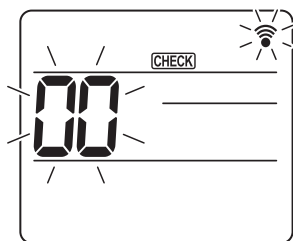
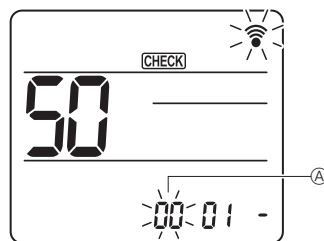
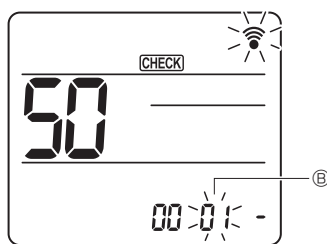
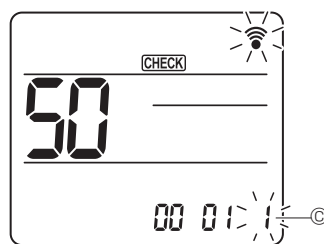

Fig. 7-16
Fig. 7-17
Fig. 7-18
Fig. 7-19
#### 7.4.2. By wireless remote controller (Fig. 7-16, Fig. 7-17, Fig. 7-18, Fig. 7-19)
(Start this operation from the status of remote controller display turned off.) [CHECK] is lighted and "00" blinks. (Fig. 7-16)
- ② Setting the unit number
- Press the [DOWN] button to set unit number ①. (Fig. 7-17)
- ③ Select a mode
- Press the [DOWN] button to set Mode number ②. (Fig. 7-18)
- ④ Selecting the setting number
- Use the [DOWN] button to change the Setting number ③. (Fig. 7-19)
- ⑤ To select multiple functions continuously
- Repeat select ③ and ④ to change multiple function settings continuously.
- ⑥ Complete function selection